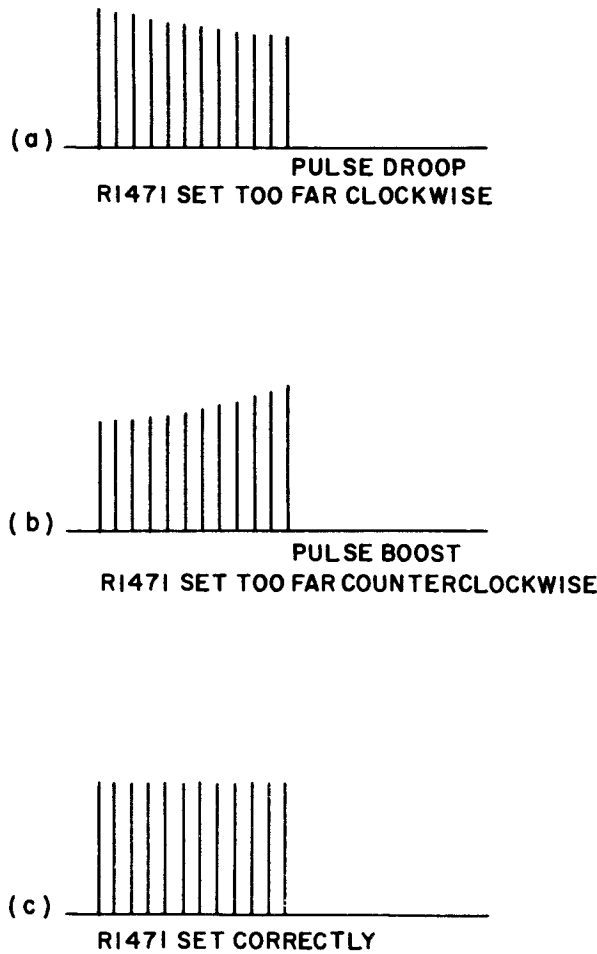

Figure 2-21. Frequency Multiplier-Oscillator,
Step 21. Connect oscilloscope through crystal detector E1152 to KLYSTRON OUTPUT INCIDENT jack J1157. Adjust potentiometer R1470 for maximum pulse amplitude possible without limiting. A limited shaped pulse is shown in figure 2-21.
Step 27. With oscilloscope connected as directed in step 26, look at the auxiliary reference burst on oscilloscope screen. Check that amplitude of pulses remains constant throughout reference burst. If reference burst appears as shown in waveform c of figure 2-21, no further adjustment is necessary. If reference burst appears as shown in either waveform a or b of figure 2-21, adjust potentiometer R1471 on frequency multiplier-oscillator video chassis (figure 2-17) to obtain a constant amplitude for all pulses in reference burst, as shown in waveform. Adjustment of potentiometer R1470, as described in step 17, and the adjustment of potentiometer R1471 are interde-